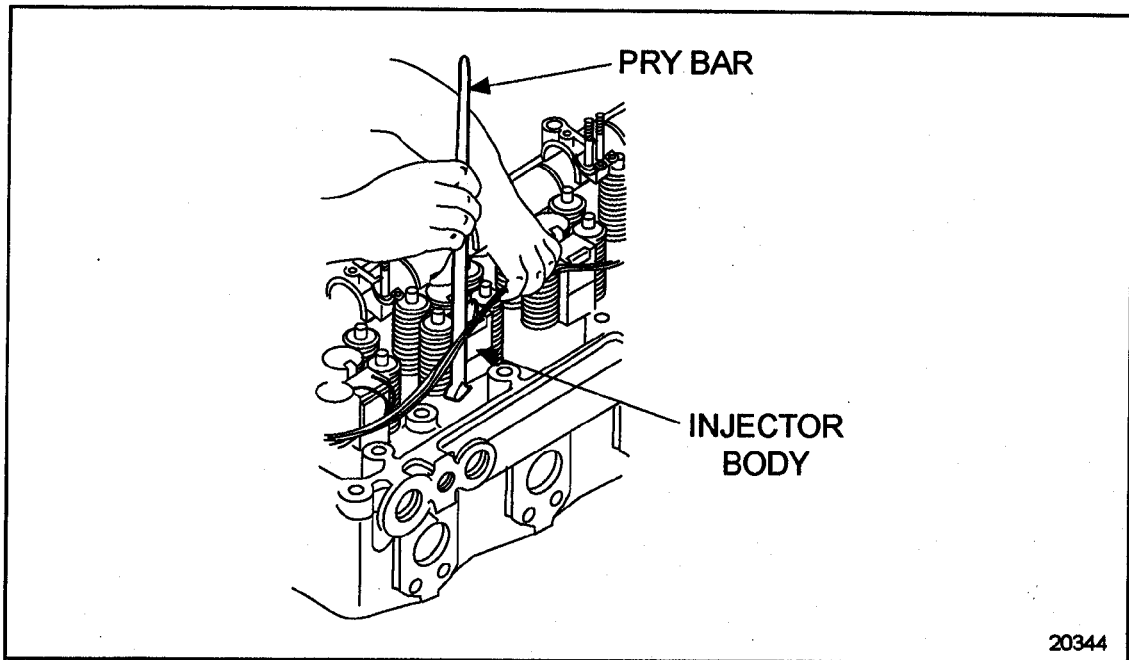

Figure 2-7 Removing Electronic Unit Injector
3. Lift the injector from its seat in the cylinder head by inserting a pry bar under the injector body. See Figure 2-7.